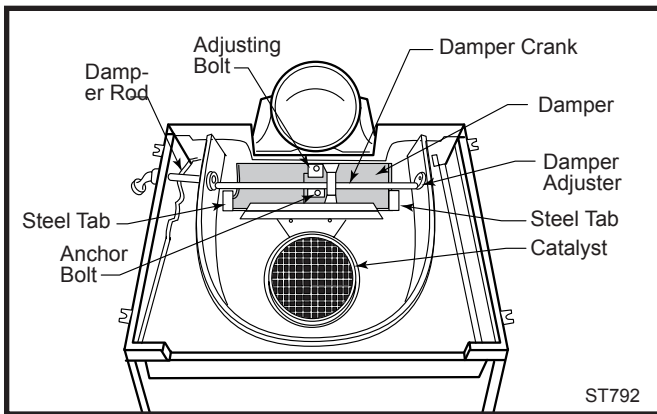

Fig. 3 Catalyst, damper and associated parts.
Remove the anchor bolt and nut joining the damper to the damper adjuster; open the damper or reach through the firebox to get at the nut. The rearward bolt in the base of the adjuster is the adjusting bolt; leave it in place. (Fig. 3)
Remove the two bolts holding the steel tabs which capture the pivoting ends of the damper, and remove the damper. (Fig. 3)
9. Turn the damper crank to its highest position and install the damper, secure it at each end with a steel tab held in place with a hex head bolt. (Fig. 3)